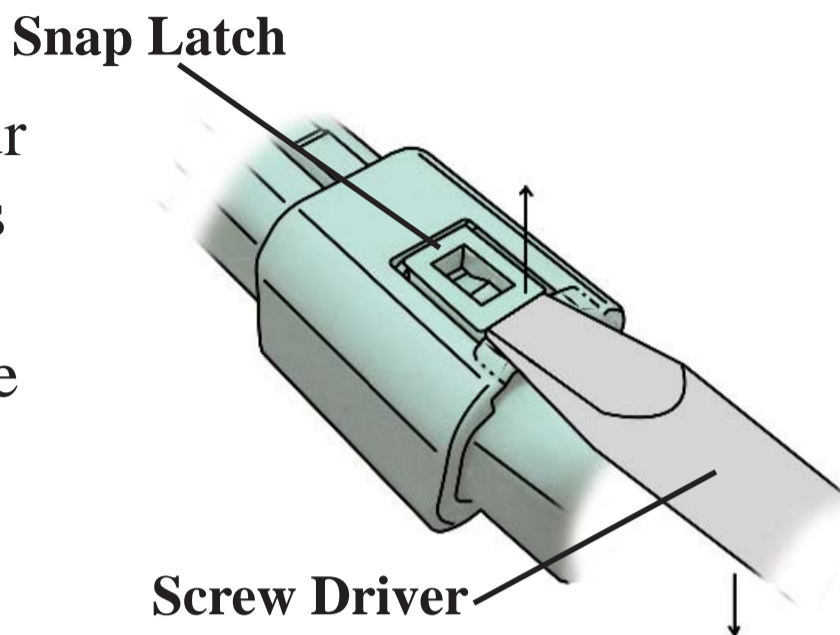

Figure 5 - ATTITUDE DISCONNECT
1) Unplug your old Attitude from your Juice module. To do this lightly lift up the small tab with a small screw driver and lightly pull the connectors apart. (Figure 5)